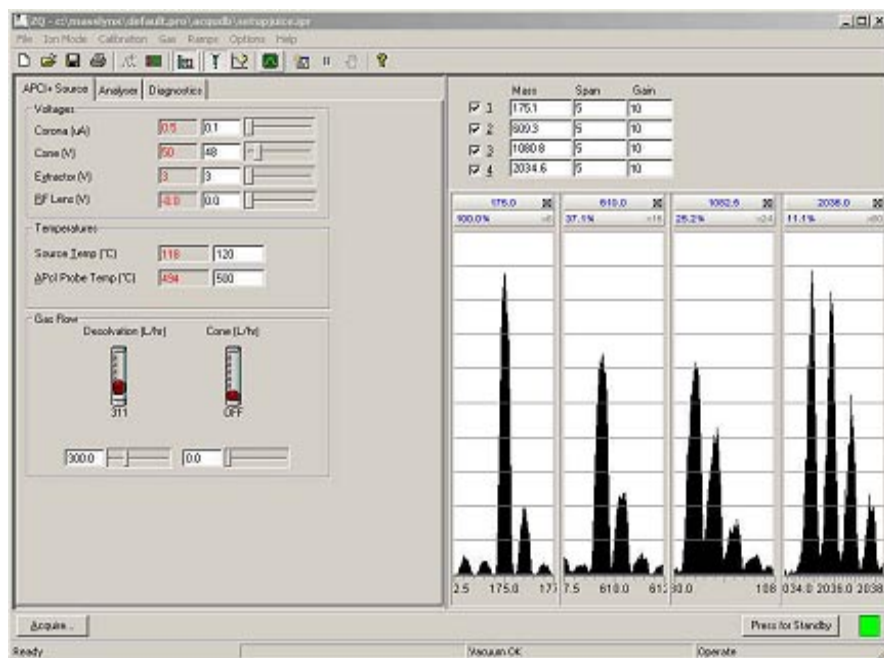

Figure 3-7 Tune Window Displaying the APCI+ Source Page
1. Select **Ion Mode > APCI+** from the Tune window (Figure 3-3). The APCI+ Source page appears (Figure 3-7).